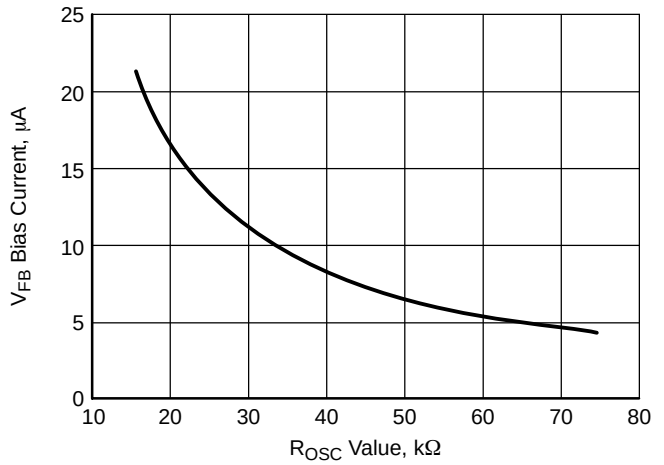

Figure 5. V_{FB} Bias Current vs. R_{OSC} Value
3. The V_{FB} Bias Current changes with the value of R_{OSC} per Figure 5.